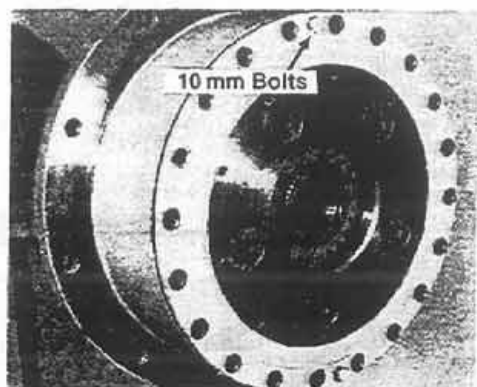

Figure 3:
Step 3. Remove the outboard planet carrier capscrews (20). Pull outer planet carrier by turning two 10 mm bolts into the threaded puller holes on opposite sides of the planet carrier flange (Fig. 3).